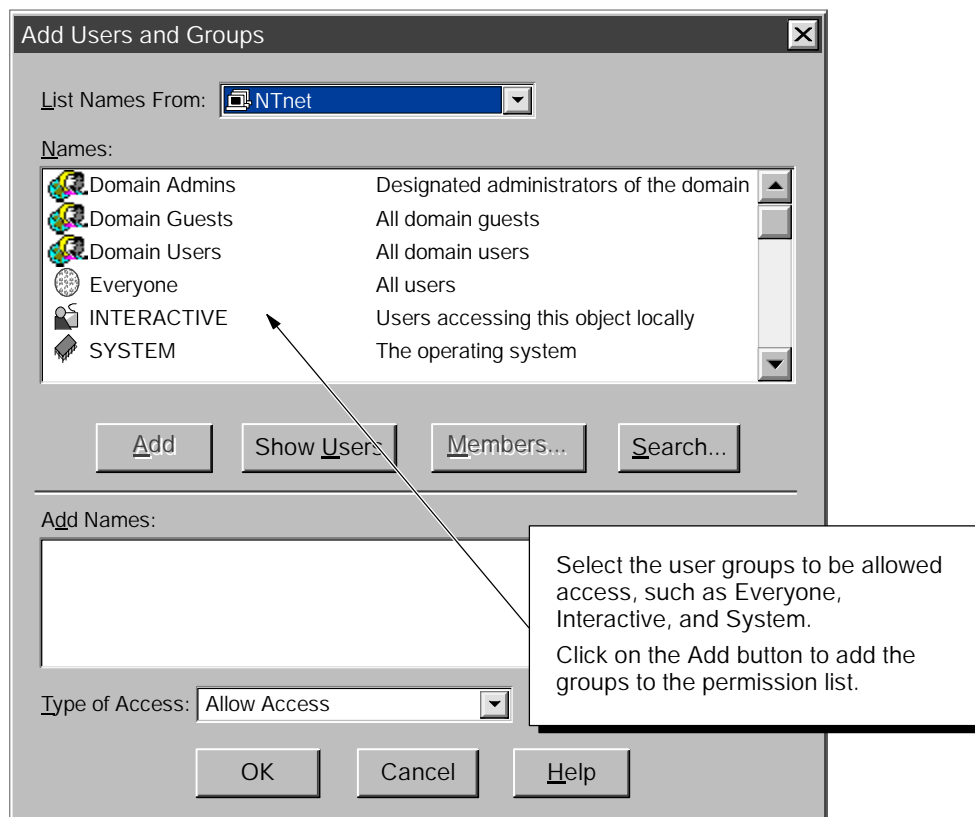

Figure D-17 Changing the Launch Permissions for Users or Groups
2. Click on the Add button to display the Add Users and Groups dialog box and change the security settings for access to the server. See Figure D-17.
3. In the "Names" field of the Add users and Groups dialog box (Figure D-17), select "Everyone" (or the appropriate subset of users) and click on the Add button.